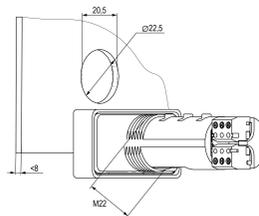

Fig. 2 Mounting cutout
1. Prepare the mounting cutout with \varnothing of 22.5 mm in the switchboard where the device should be mounted (see Fig. 2).